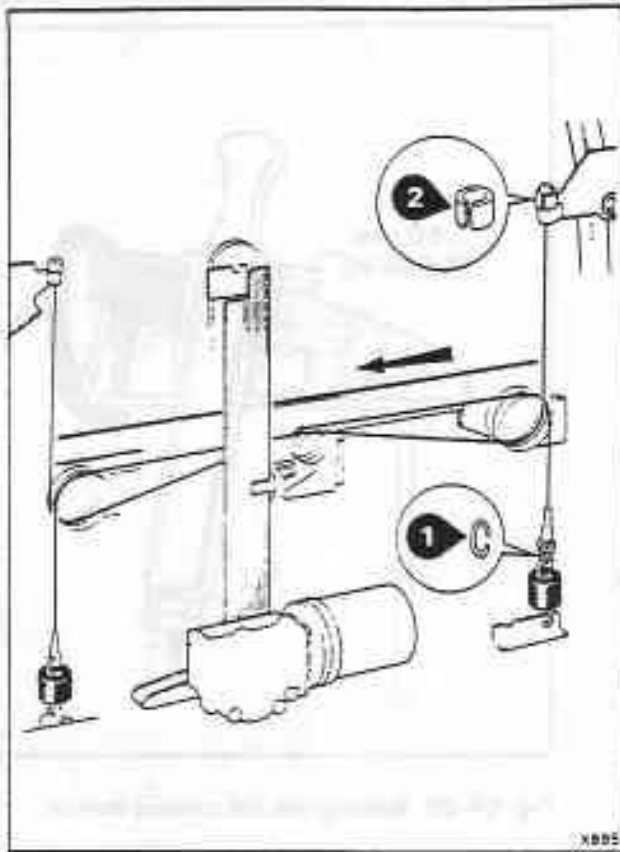

Fig. S4-21 Wire guidance assembly
1. Check the operation of the window glass to ensure that the glass, when raised, seats fully into the window channel. If the glass needs to be moved rearwards within the channels, fit an additional link and spacer as shown in figure S4-21, items 1 and 2. If the glass requires moving forwards within the channels, fit the link and spacer on the rear guidance wire.